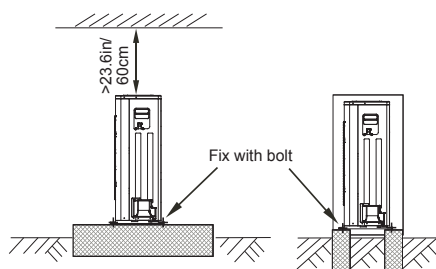

Fig.6-5
- Make a concrete foundation according to the specifications of the outdoor units. (Refer to Fig.6-5)
- Fasten the feet of this unit with bolts firmly to prevent it from collapsing in case of earthquake or strong wind. (Refer to Fig.6-5)